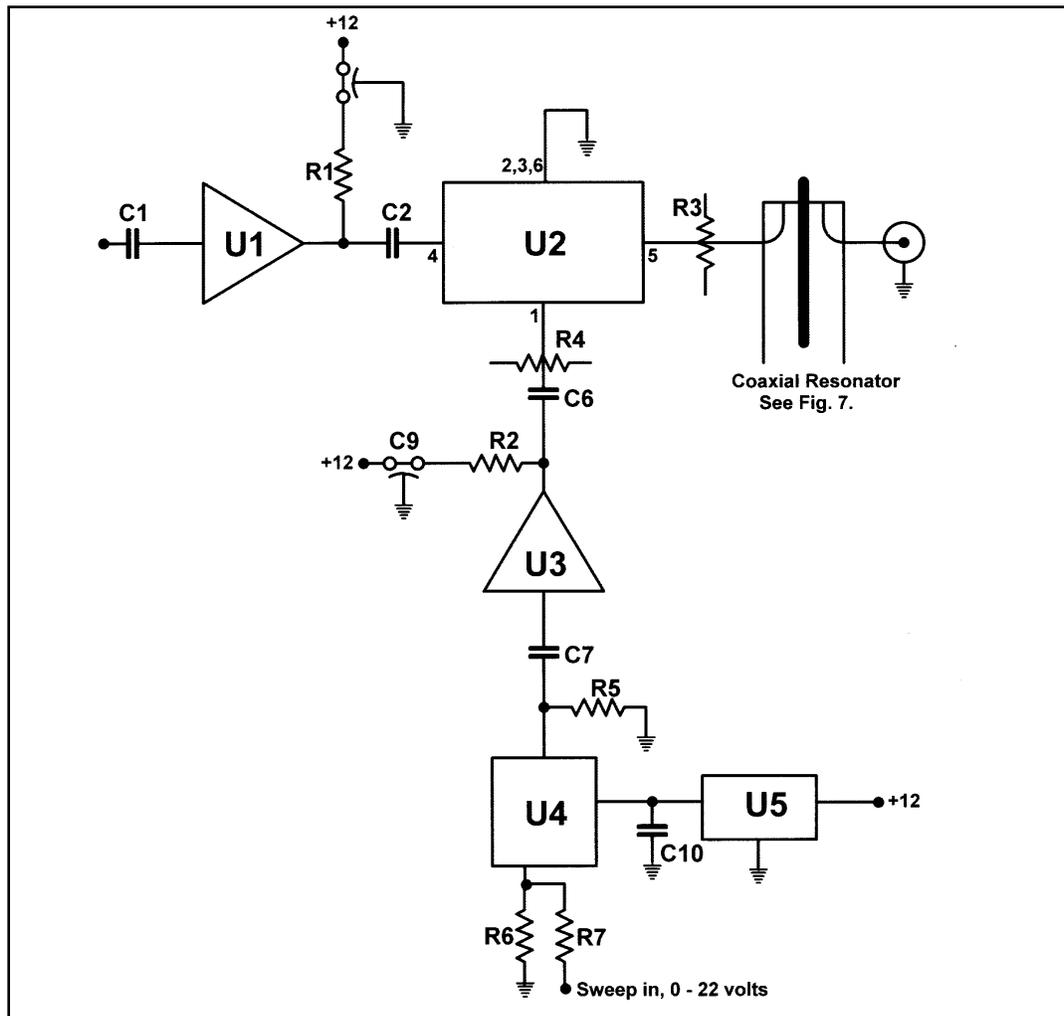

Figure 5. Method for reaching higher frequencies.
**Figure 5** demonstrates how to achieve higher frequencies. First, you need to find a swept frequency source at a reasonable price. Backward-wave oscillators were used in older commercial oscillators and YIG oscillators are used in more modern equipment. Both offer wide bandwidth, but for a price! Microwave VCOs offer a bandwidth of 1 GHz or more when tuned with a voltage from 0 to 20 volts. Some of these devices are reasonably priced, have output lev-
A MiniCircuits RMS 30 DBM is surface mounted on 0.032 Duroid material, as shown in **Figure 5**. A 1200-MHz coaxial filter allows only the 1200-MHz IF signal to pass. MiniCircuits advises you to use a 3-dB pad at the output if you don't use a diplexer. Another 3-dB pad at the LO port reduces LO drive to 7 dBm while minimizing variations from the nominal 50-ohm termination impedance. A MCL MAR-6 device provides about 10 or 12 dB gain at the RF port.
The VCO is mounted on 0.032-inch Duroid material. A number of wires were passed through small holes drilled around the VCO module and soldered on both sides. The VCOs are surface-mount devices, and it's difficult to solder them using an ordinary soldering iron. Inadequate contact with the ground plane will adversely affect performance. The high-frequency model (**Figure 5**) would not work properly when mounted in this fashion. I then cut a square hole in the Duroid which fit the VCO exactly. Use of conducting traces to meet the tuning, power, and output ports, and using thin strips of hobby brass material soldered across